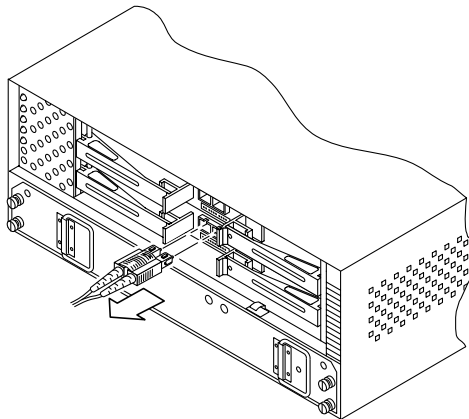

FIGURE 5-3 Fibre Optic Cables on Front of FC-AL Controller Module
6. Disconnect all fibre optic cables from the controller module (FIGURE 5-3).